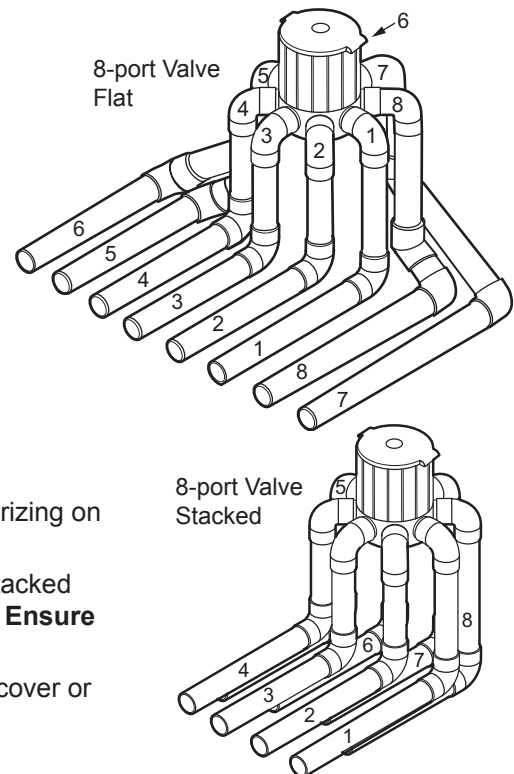

Figure 5. 8-Port Valve Stacked and Flat Configuration
The distribution system is designed to rotate from the shallow end to the deep end; pushing debris to the drain. Port 1 should always be the step or bench port, followed by the shallow bank, etc. Looking down on the valve, it rotates clockwise. If a spa is included, it will require a dedicated line from the valve. Follow the design plan to install the lines in the correct order (See Figure 5).
- Install the discharge lines from the valve in a stacked or flat configuration (See Figure 5). **CAUTION: Ensure pipes do not touch each other.**